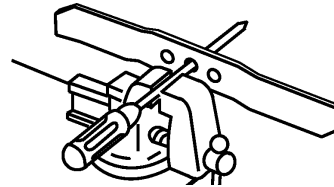

Figure 30
1. Check the balance of the blade by placing the center hole of the blade over a nail or screwdriver shank clamped horizontally in a vise (Fig. 30).